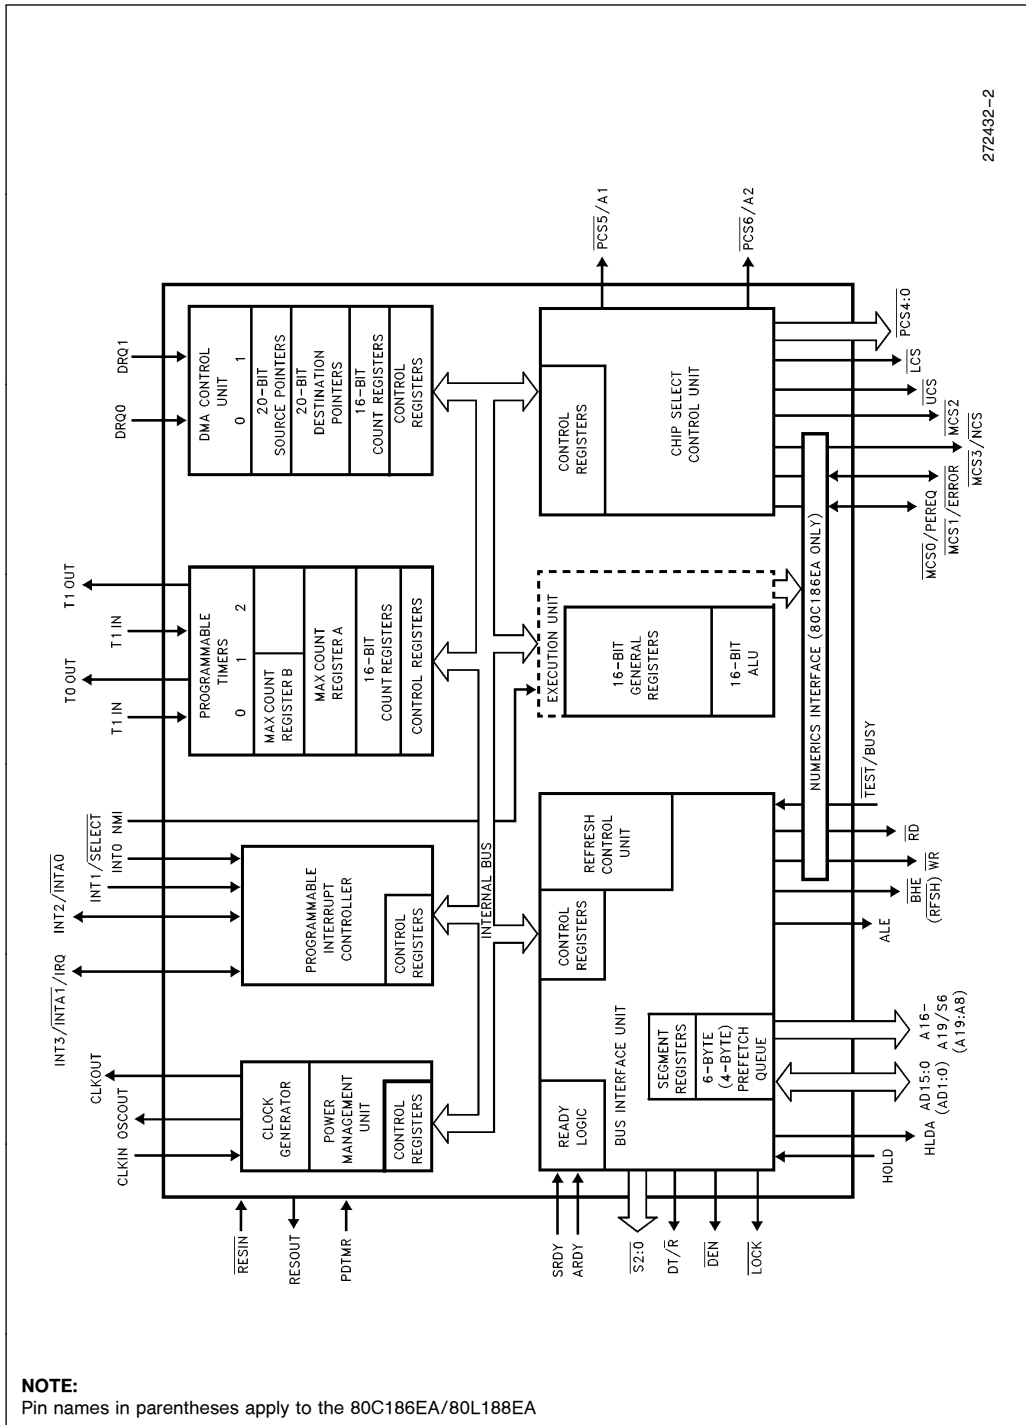

Figure 1. 80C186EA/80C188EA Block Diagram
Figure 1 shows a block diagram of the 80C186EA/80C188EA. The Execution Unit (EU) is an enhanced 8086 CPU core that includes: dedicated hardware to speed up effective address calculations, enhance execution speed for multiple-bit shift and rotate instructions and for multiply and divide instructions, string move instructions that operate at full bus bandwidth, ten new instructions, and static operation. The Bus Interface Unit (BIU) is the same as that found on the original 80C186 family products. An independent internal bus is used to allow communication between the BIU and internal peripherals.